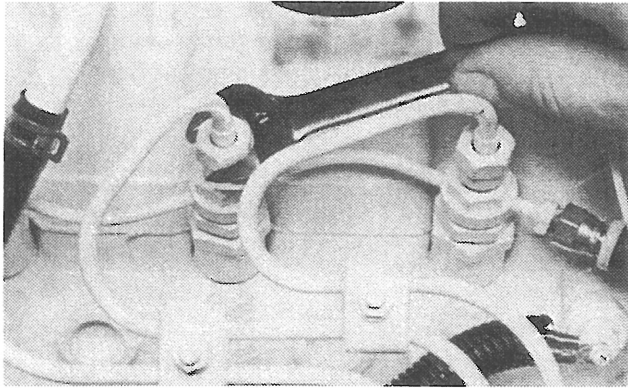

Figure 11. Remove Delivery Line Flare Nuts
- b. Relieve high pressure in the fuel lines by loosening the delivery line flare nuts at each injector (Figure 11).